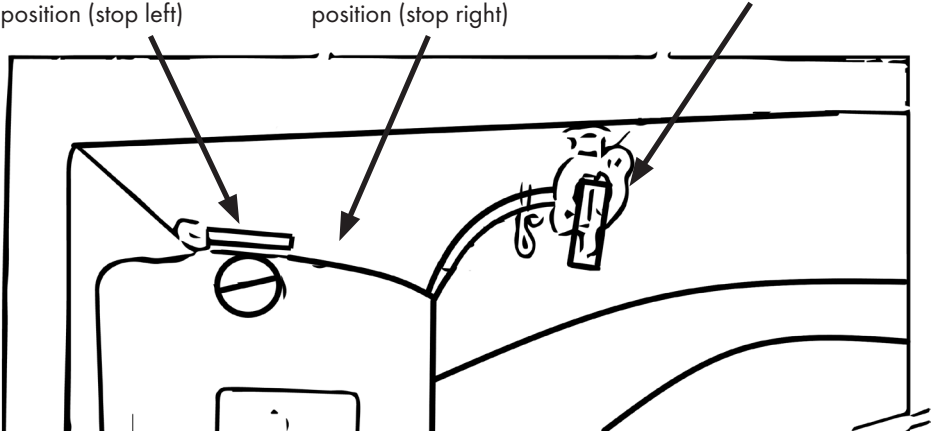

Figure 13
- Open the fuel tap. See also Fig. 13. (Handle on the tap points downwards)